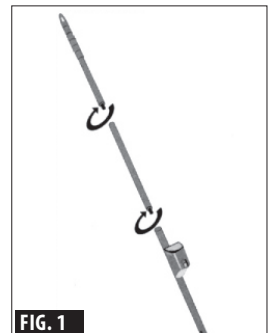

FIG. 1
1. Screw together the three "Pole Sections" until secure (see FIG. 1)